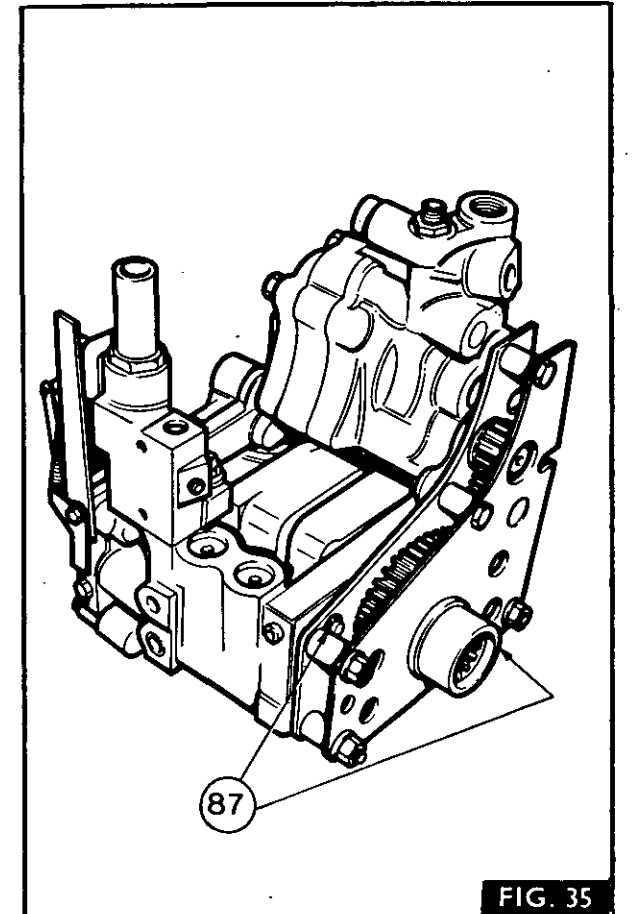

FIG. 35
10. Fig. 35. Remove the two 'C' clips (87), and withdraw the Multi-Power/auxiliary pump from the hydraulic pump.
1. Fig. 35. Locate the Multi-Power/auxiliary pump on the hydraulic pump and secure it in place with the two 'C' clips (87).